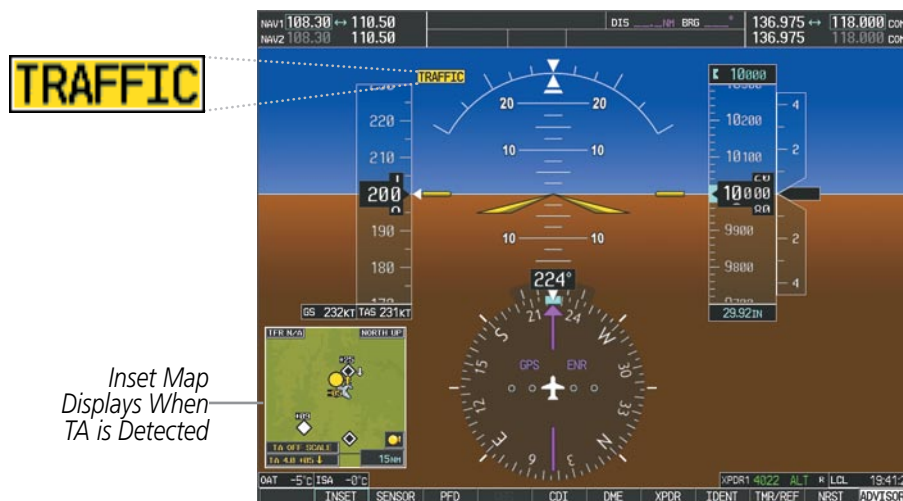

Figure 6-156 Traffic Annunciation (PFD)
- A TRAFFIC Annunciation appears at the top right of the airspeed on the PFD, flashing for five seconds and remains displayed until no TAs are detected in the area (Figure 6-156).